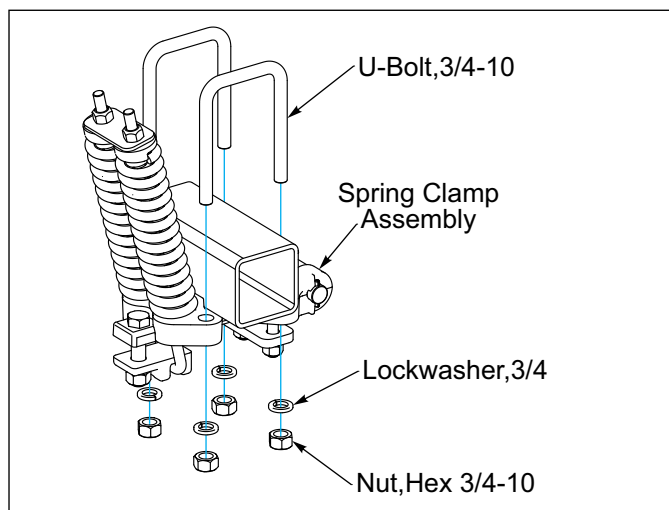
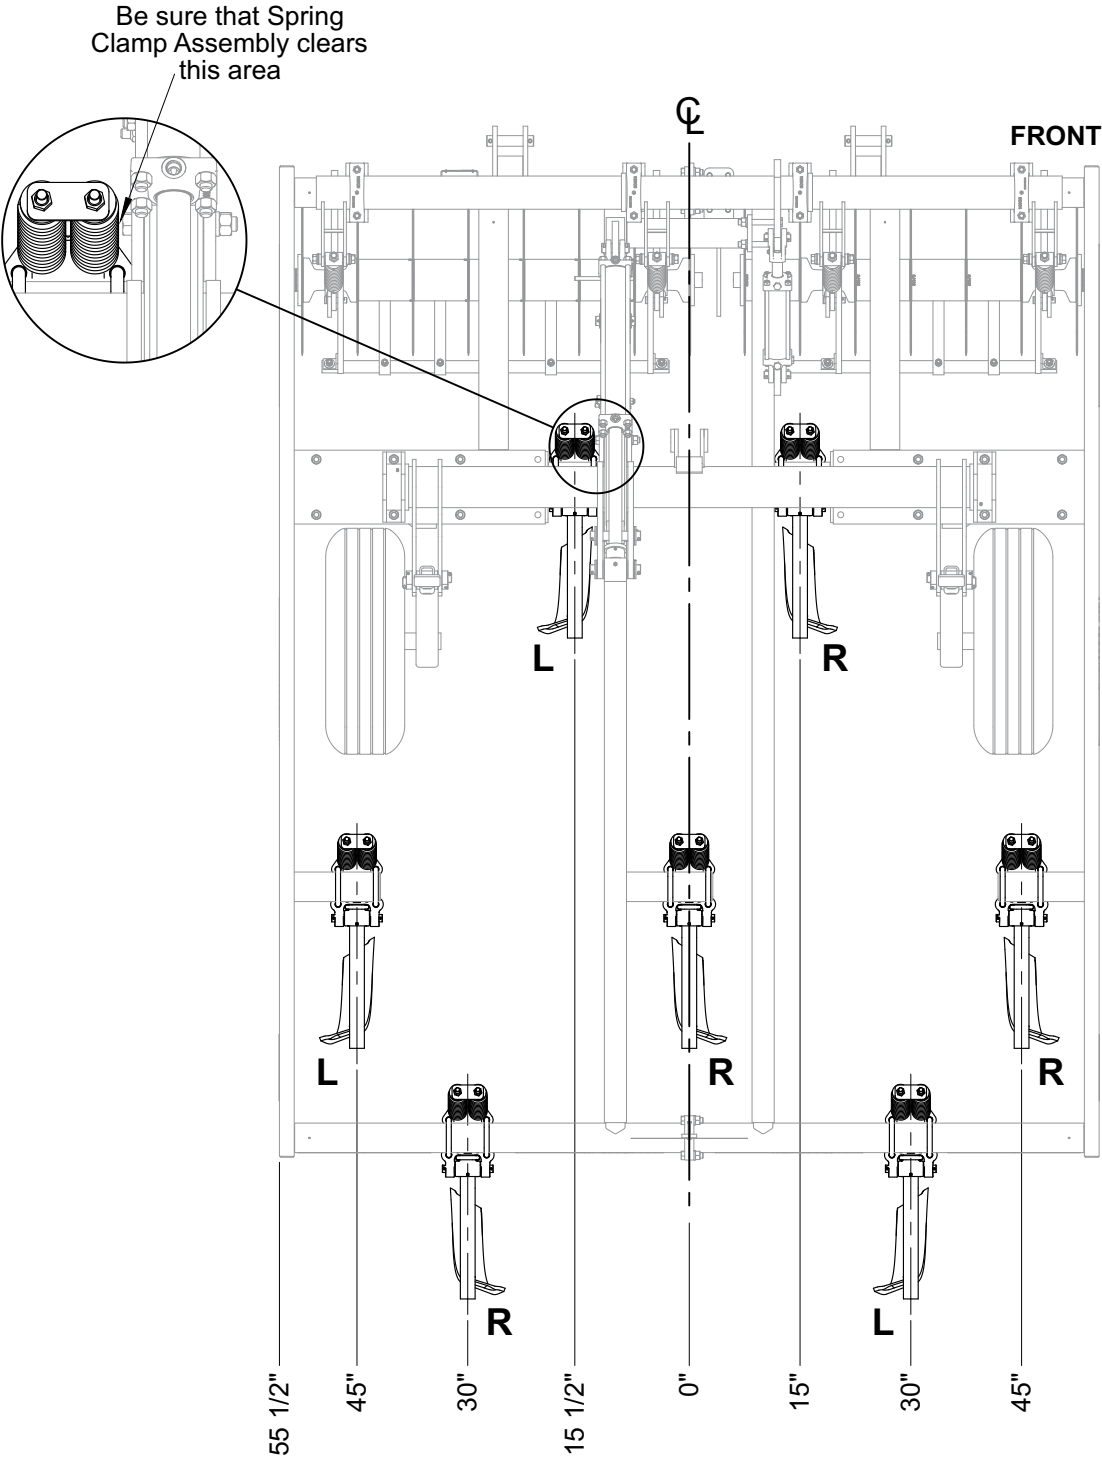

Figure 2-38: Spring Clamp Assembly
Figure 2-41: 7 Shank, Single Wheel Machine, Top View
The “R”(right) and “L”(left) on the Shank Layouts indicate which direction that the Shovel will throw the dirt. **See Figures 2-41 through 2-45.** On all machine sizes you will have one more right hand Shovel than left hand.
1. Orient the Spring Clamp Assemblies so that the Springs are to the front of the machine. Install Spring Clamp Assemblies onto the Frame in the positions indicated per Machine Shank Layout with 3/4-10 U-Bolts, Lockwashers and Hex Nut. **See Figure 2-38.** Be sure that the Spring Clamp Assembly by the Center Rockshaft Bearing clears the bolt head. **See Figures 2-41 through 2-45.**
1. Place 3-Hole Plate on the top and Shank Support on the bottom of the Frame Tube in the positions indicated per Machine Shank Layout, single holes to the front of the machine. **See Figures 2-41 through 2-45.**